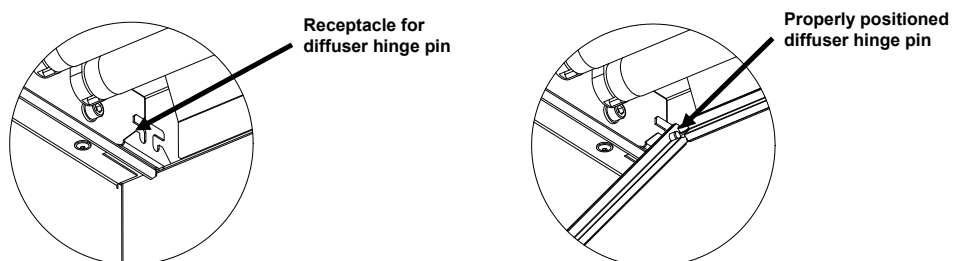

Figure 9. Receptacle
6. Insert the diffuser hinge pins at each back corner into the front slot of the receptacles located at the rear corners of the luminaire housing. Refer to figure 9.